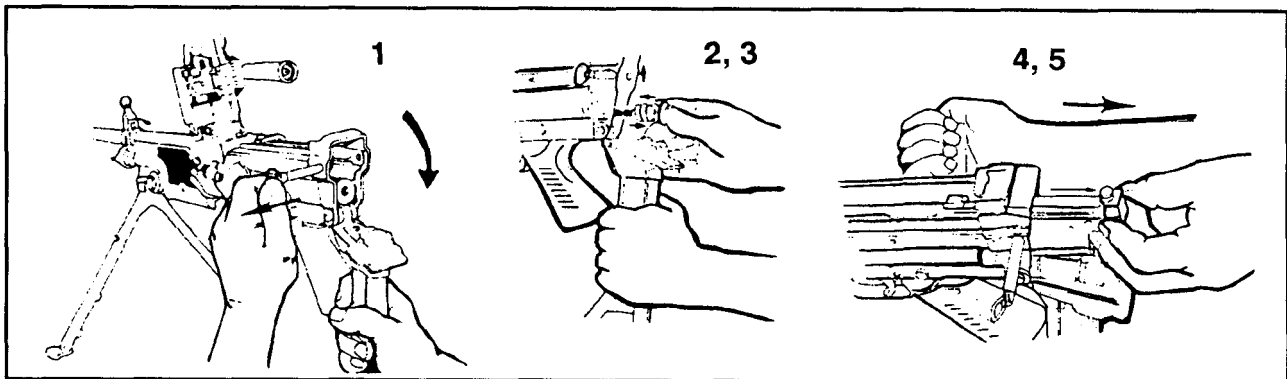

Figure 2-3. Removing the operating rod group.
a. **Removing the Operating Rod Group (Figure 2-3).** The operating rod group consists of the spring guide rod, operating rod spring, slide assembly, piston assembly, and bolt assembly.
(1) To remove the operating rod, pull the upper retaining pin at the rear of the receiver to the left. Allow the buttstock to pivot downward and place it on a surface to support the weapon for disassembly.
(2) To release the operating rod assembly from the positioning grooves inside the receiver, hold the weapon with one hand on the buttstock assembly and use the thumb of the other hand to push in and upward on the rear of the operating rod assembly.
(3) Pull the operating rod and spring from the receiver group and separate the parts.
(4) Hold the buttstock assembly with your left hand to stabilize the weapon. With your right hand, pull the cocking handle to the rear to lock the bolt. Return the cocking handle to the forward position. Place a finger on the face of the bolt and push until your finger makes contact with the bridge at the end of the receiver. This leaves the piston, slide, and bolt assemblies exposed.
(5) Hold the slide assembly while pulling the moving parts out the rear of the receiver.